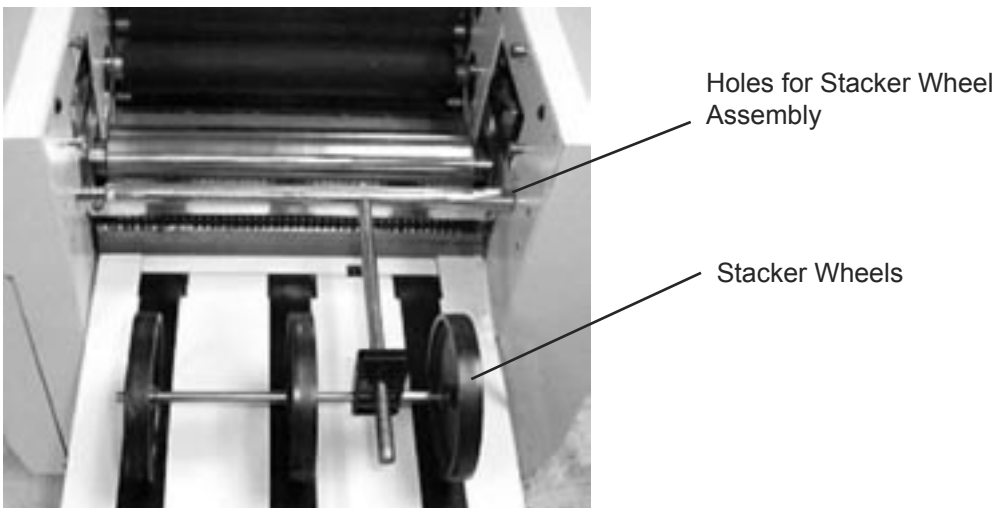

Figure 5
7. Install the stacker wheel assembly into the holes indicated in figure 5.
8. Adjust the stacker wheels to conveyor decal (figure 5).